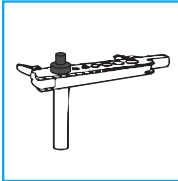

Fig 2.
2. Place the Die Press over the pipe carefully with the Securing Hooks on the underside of the Flaring Block, ensuring the Flaring Tip is positioned directly above the end of the pipe and in line with the edge of the die (Figure 2).
4. Unwind the Flaring Tip and remove the Die. Reposition the Die Press and Flaring Block and align the Flaring Tip with the pipe (Figure 2). Turn the Handle clockwise slowly, ensuring accurate alignment to apply even pressure. Turn the Handle until the Flaring Tip extends into the pipe and the double flare is created (Figure 5).